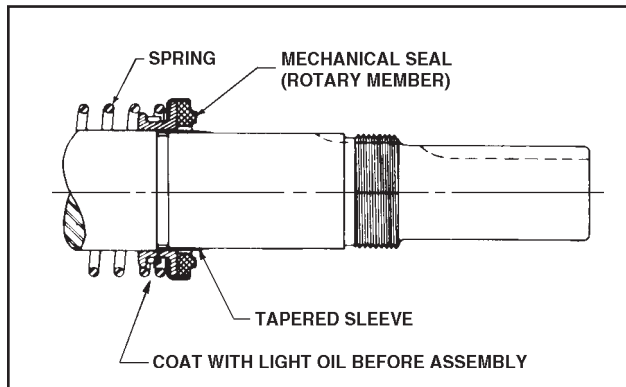

Figure 22
4. Place tapered installation sleeve on shaft. Refer to Figure 22. Sleeve is furnished with GG, AS, AK, and AL replacement mechanical seals. Coat rotor shaft, tapered installation sleeve, and inner diameter of mechanical seal rotary member with a generous amount of refrigeration oil. Petrolatum may be used but grease is not recommended.
GG, HJ, HL: Install ball bearing into bearing housing with shield side toward coupling end of shaft. See Figure 22. Install snap ring into bearing housing to retain ball bearing. This snap ring has a tapered edge to fit tapered groove in bearing housing. The tapered edge is located away from ball bearing.